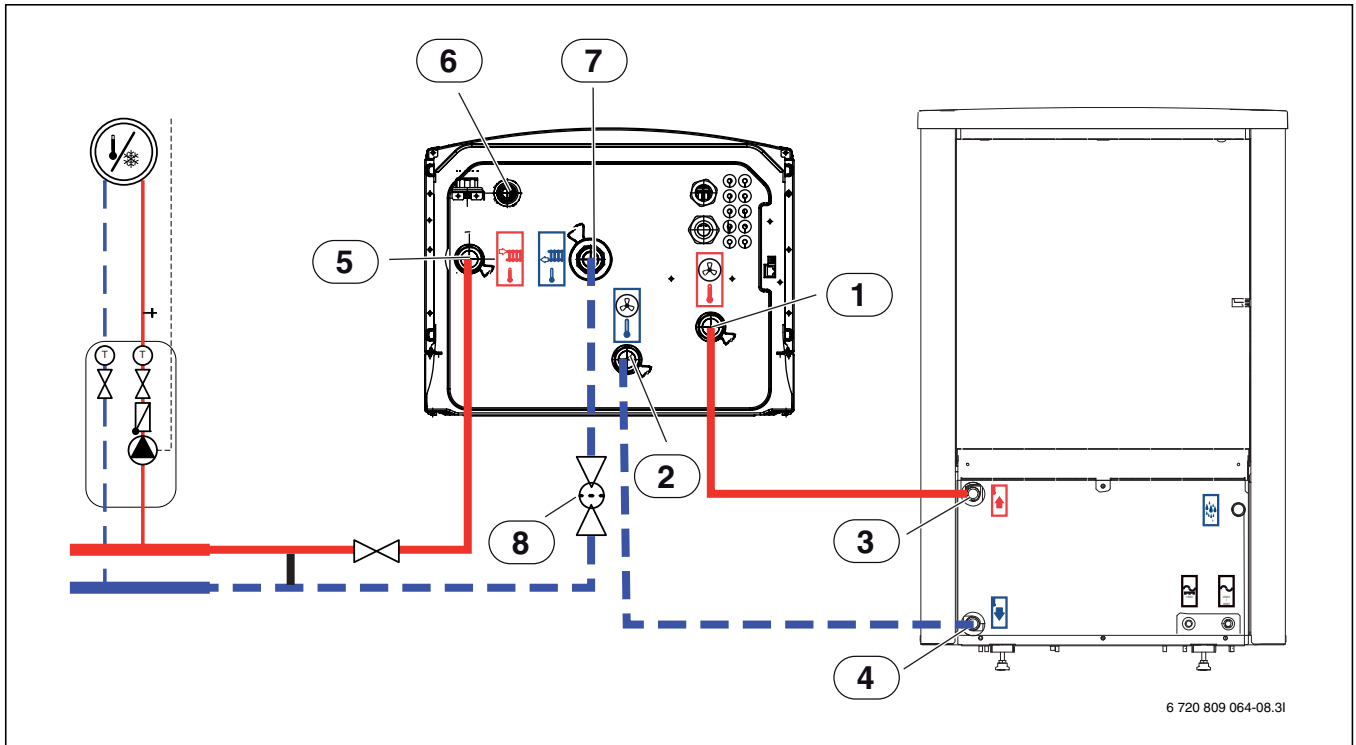

Fig. 31 Connection of a heat pump module with an immersion heater to a heat pump and heating system
- ▶ Run the leakage drain hose from [6] Fig. 31 down to a frost protected drain.
- ▶ Connect heat transfer medium pipes in from the heat pump to [1] Fig. 31.
- ▶ Connect heat transfer medium pipes out to the heat pump to [2] Fig. 31.
- ▶ Connect the return from the heating system to [7] Fig. 31.
- ▶ Connect the flow to the heating system to [6] Fig. 31.